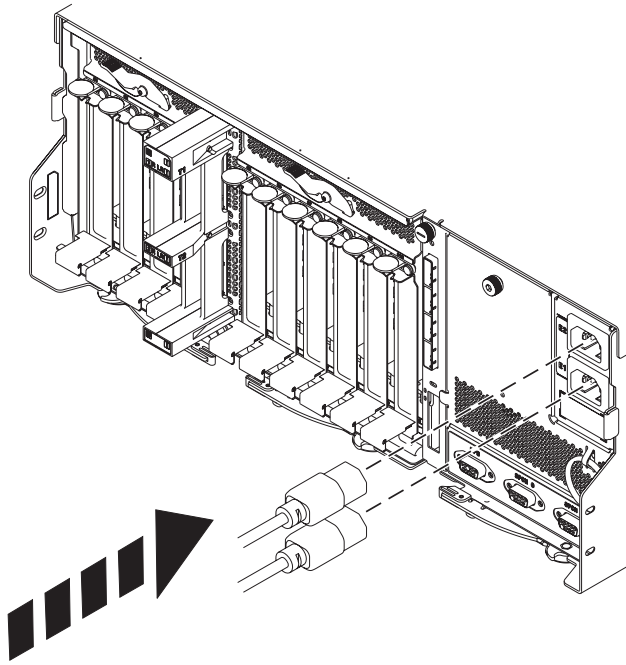

Figure 26. Connecting the power cords
- c. Push the handle (A) toward the disk drive unit to lock it into place.
- c. Push the handle (A) toward the card to lock it into place.
7. Connect the power cords to the back of the enclosure as shown in Figure 26 on page 35.